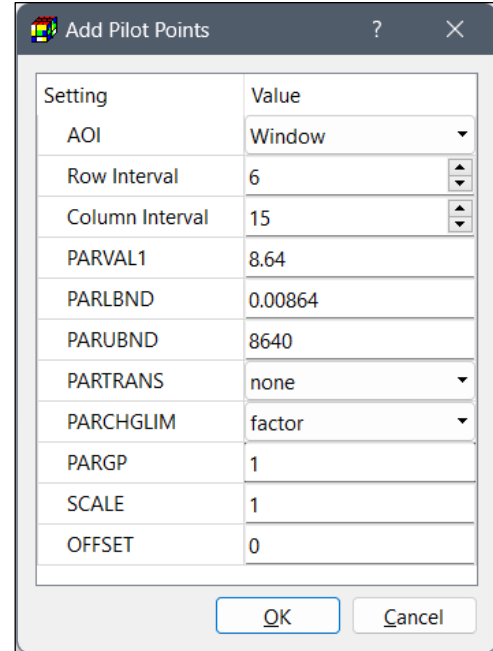

Figure 27. The Add Pilot Points dialog box
- Hold the Ctrl key, click and drag the mouse to draw a window covering the target area, then release the mouse button to open the Add Pilot Points dialog box (Figure 27).